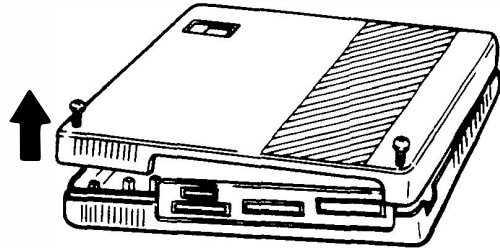

Figure 200-12 Opening KSU Cover
- Slightly lift the bottom end of the cover as shown in Figure 200-12 Opening KSU Cover.